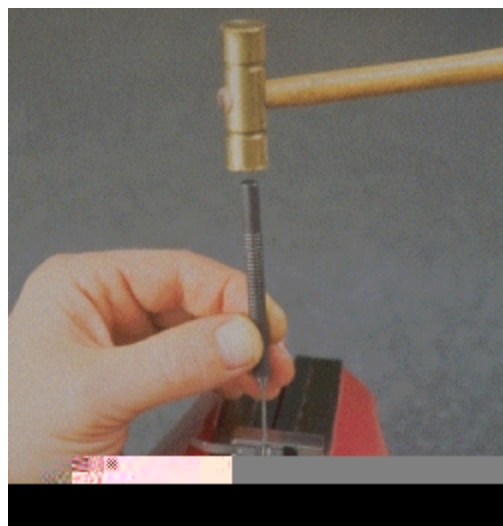

Fig. 7
- A. Inspect the control valve spring(13) to ensure that it is present and securely in place, without any grit or debris inside it.
- B. Examine the control valve pin(14) to ensure that the slotted portion is visible and facing directly up, and that it is not flared or distorted in any way.
13. In the event that disassembly of the control valve assembly(15) is needed, strictly adhere to the following procedure:
- A. Place the control valve assembly(15) on top of a vise. Open the jaws of the vise slightly, and position the control valve body(11) on its side so that the pin(14) is centered between the opening. (Fig. 7)